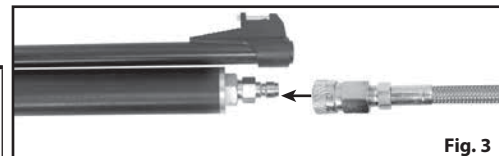

Fig. 3
- Connect the quick-disconnect fitting on the hand pump hose to the fill nipple (Fig. 3).
- Connect the quick-disconnect fitting on the adaptor's hose to the fill nipple (Fig. 3).